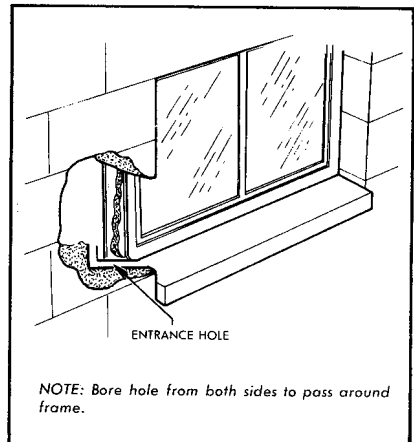

FIGURE 1. Entrance at Metal Window
- When a metal window frame is set in masonry or bricks, enter as shown in Figure 1.